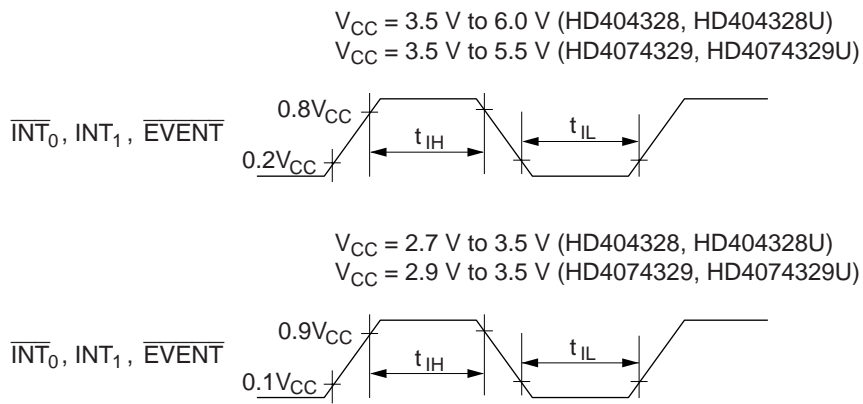

Figure 50 Interrupt Timing
5. Refer to figure 50. The t_{cyc} unit applies when the MCU is in standby or active mode.